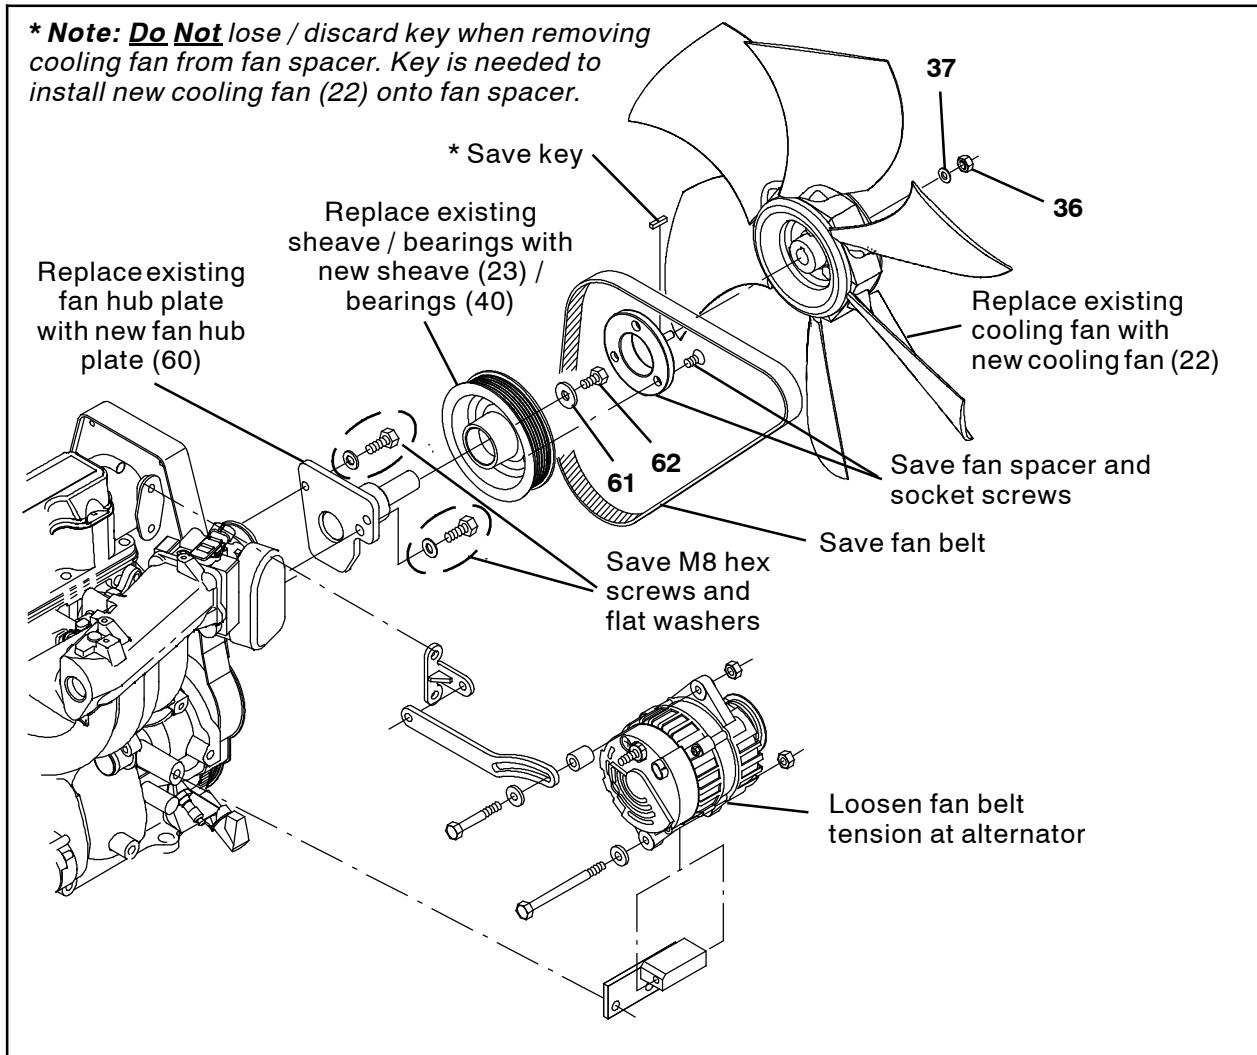

FIG. 6
7. Loosen the belt tension at the alternator and remove the fan belt from the machine. Set the fan belt aside. (Fig. 6)
8. Remove the cooling fan from the machine. Set the M8 hex nut, key, and flat washer aside. Discard the cooling fan. (Fig. 6)
9. Remove the fan spacer from the machine. Set the fan spacer and socket screws aside. (Fig. 6)
10. Remove the sheave from the machine. Discard the sheave / bearings and hardware. (Fig. 6)
11. Remove the existing fan hub plate from the engine. Discard the removed fan hub plate. (Fig. 6)
12. Use two M8 hex screws and two flat washers to install the new fan hub plate (60) onto the engine. (Fig. 6)
13. Use the hex screw (62) and flat washer (61) to install the new sheave (23) onto the engine. (Fig. 6)
14. Use the saved socket screws to install the fan spacer onto the sheave (6). (Fig. 6)
15. Reinstall the cooling fan belt onto the engine and tighten to the proper tension. (Fig. 6)
16. Insert the saved key into the notch in the fan spacer and use the saved M8 hex screw and flat washer to install the new cooling fan (22) onto the fan spacer. (Fig. 6)